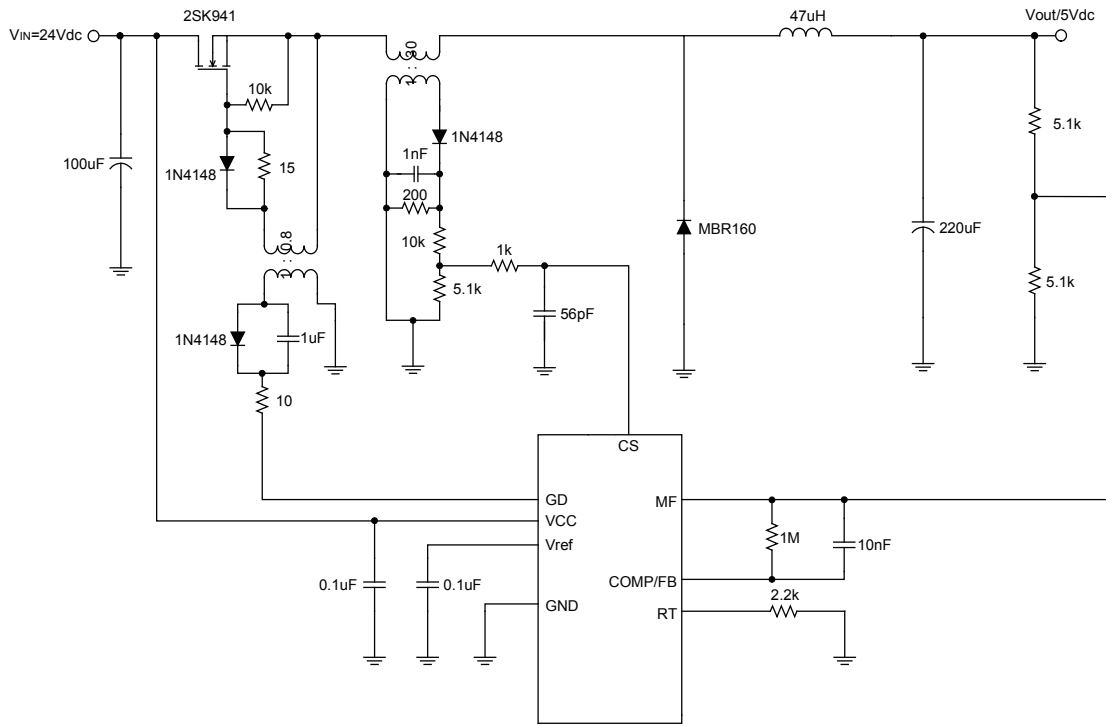

Figure 11 Constant Voltage Buck Regulator (High-Side Buck)
A Constant Voltage (CV) Buck (High-Side Buck) application circuit is shown in Figure 11. This circuit can be used with DC inputs of 24V or higher voltage and provides a Constant DC voltage output. The output power level can be changed by choosing a suitable inductor value, Transformer's turn ratio and power MOSFET, while the output voltage can be changed by choosing a suitable feedback resistor ratio.